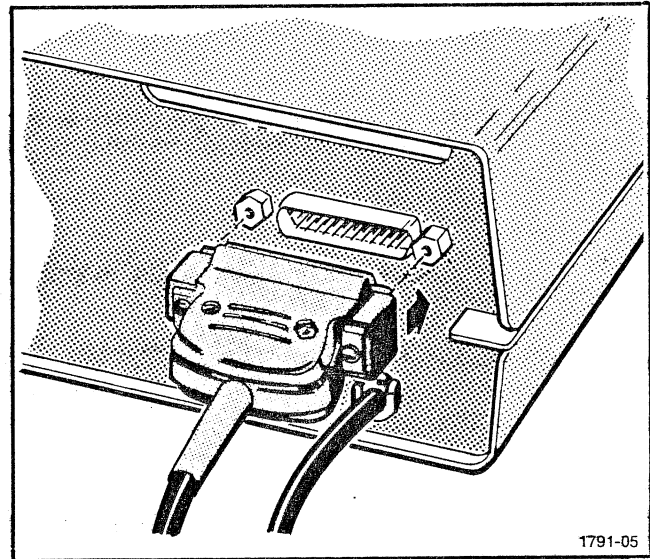

Fig. 2-2. Tablet Control Card cable connection.
3. Connect the 25-pin connector on the Tablet Control card interconnecting cable to J1010 on the Power Module rear panel, and secure with the two attaching screws (Fig. 2-2).